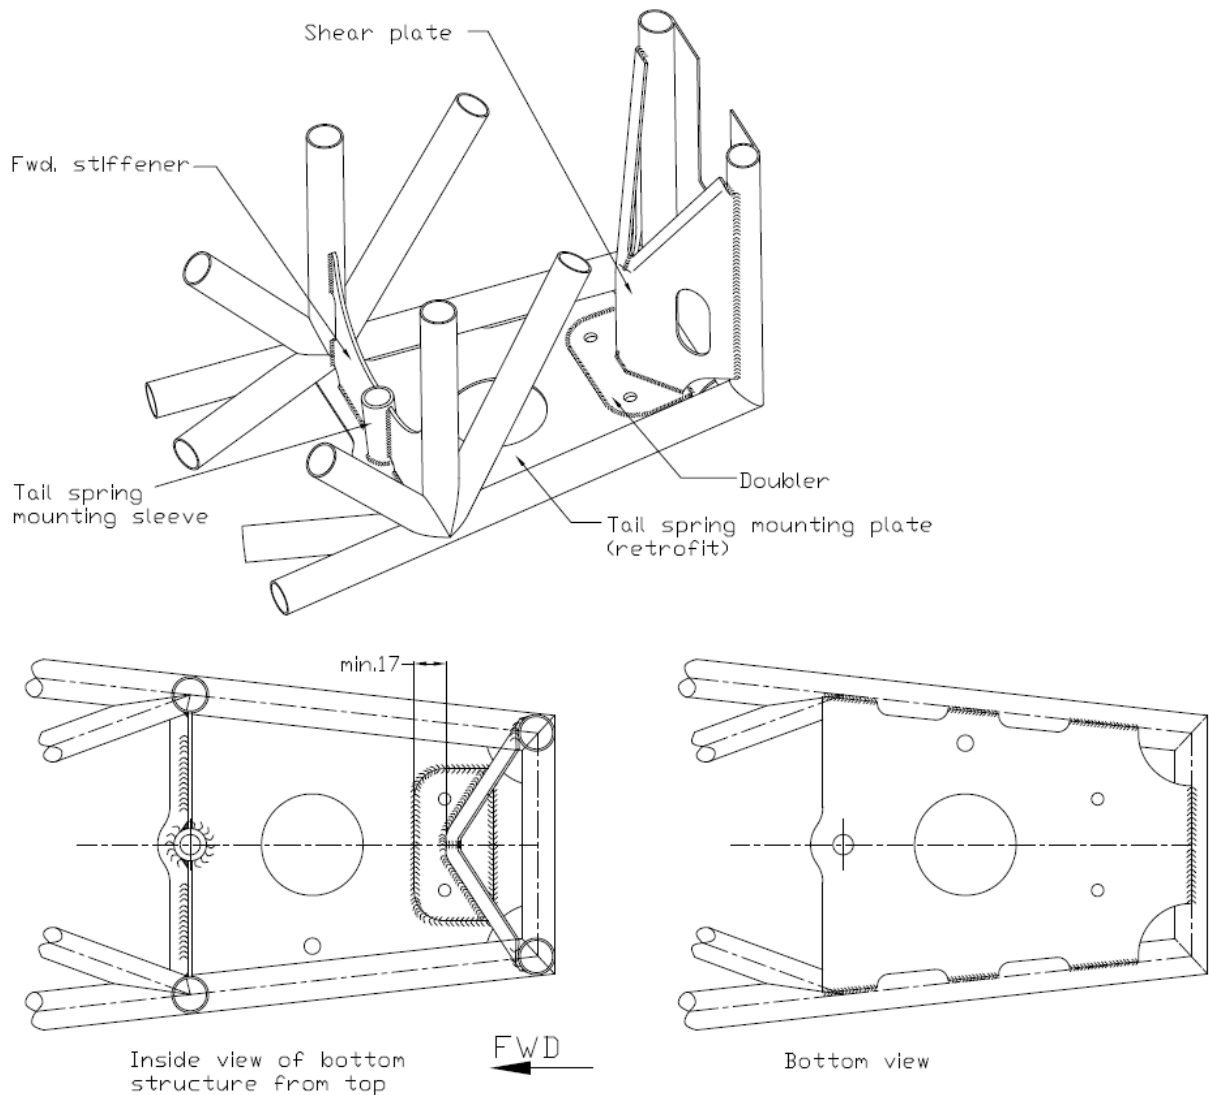

Figure 5: Position and welds of retrofit kit
- Weld retrofit plates in place, refer to figure 5 for correct position of plates and welds.